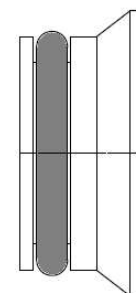

Fig.2
In case of floor installation with plinths, for these refer to the individual instruction sheets provided and the relevant manual. Use the paper template, and mark on the wall the position of the two fixing brackets (Fig.1) Drill using a suitable bit and insert the plugs (2 per bracket) (Fig.2 ref. A); fix the two brackets (Fig.2 ref. B). Do not overtighten the screws, so as to be able to adjust the brackets with a spirit level (Fig.3). Secure the two brackets by tightening the four screws. Check the stability by manually moving the brackets to the right and left, up and down. Fit the unit, ensuring correct hooking on the brackets and its stability (Fig.4).
- Separate the two clamps (Fig.2-A);
- open the front grille and completely undo the spring fixing screws (Fig.2-B,C);
The units and any plumbing accessories are provided with a Eurokonos 3/4” connection. If connections with flat seals are to be used, 2 conversion unions are supplied with the unit (fig.2).
- make sure the "L" pipe and the rubber hose are properly connected to the tray (Fig. 2 ref. A).
- permanently close the side, making sure the pipe is secured in the recess on the side (Fig.2 ref. B).